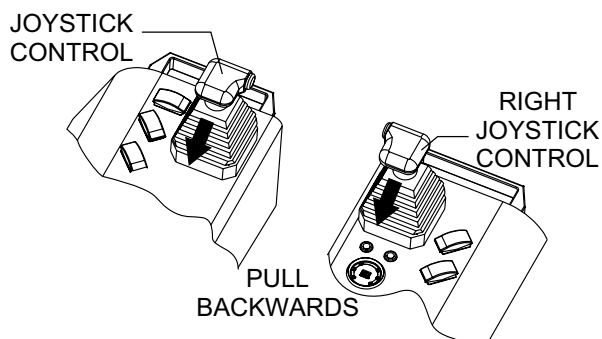

Figure 19. Joystick Control Reverse Direction
7. Pull both the left and right joysticks backward (Figure 19) and repeat steps 3 through 6 while substituting the word reverse for forward.